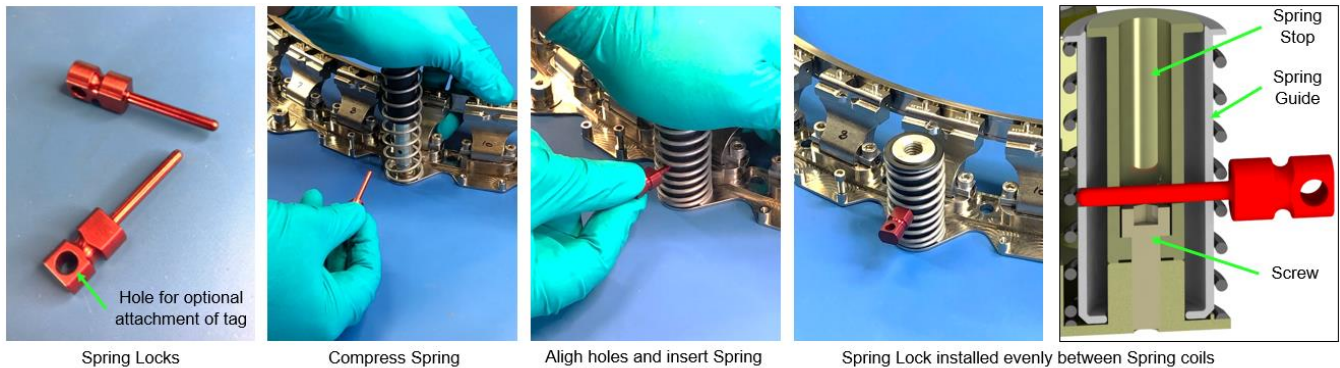

Figure 10-1: Installation of Spring Locks
10.1.1	<p>Compress Springs and install all Spring Locks. See Figure 10-1. Record number of Spring Locks used.</p> <p>Visually verify that Spring Lock passes through entire Spring assembly.</p> <p>If Spring Lock cannot be installed, ensure Spring is centered around the circular lip on the Lower Ring. If spring lock holes do not align, rotate the Spring and Spring Guide to align with Spring Stop.</p> <p># Spring Locks used: _____</p>